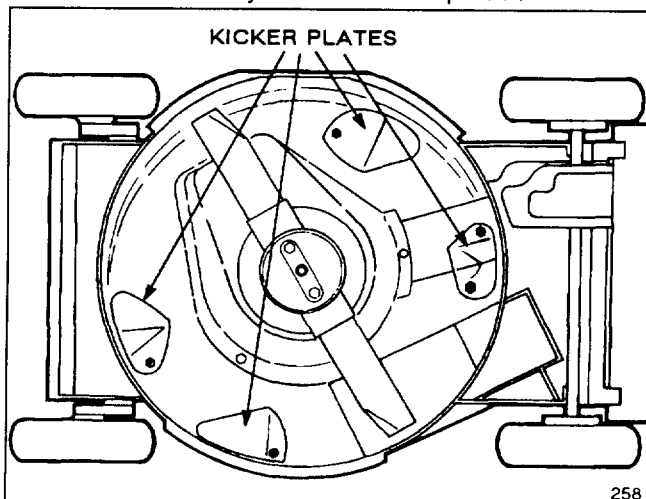

Figure 3
- Four special "kicker plates" positioned on the underside of the mower deck in strategic positions (Fig. 3)